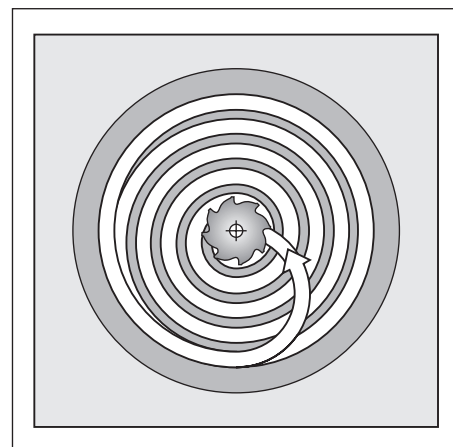

Fig. 8.10: Tool path for roughing out
- The cutter then follows a spiral path at the programmed feed rate (see Fig. 8.10). The stepover factor is determined by the value of k (see POCKET MILLING cycle G75/G76: calculations).